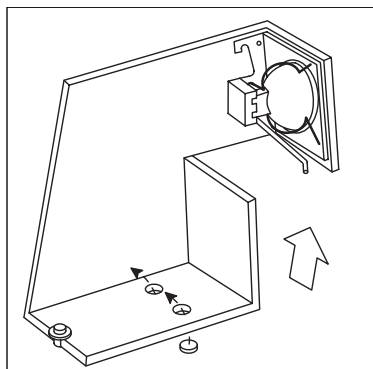

Figure 9.27
5. Reach in through exit hole (C) (being careful not to damage exit switch). Lift the lamp bracket off its two seating pins while pushing on the bottom to spring the bracket forward off its mount (Figure 9.27).